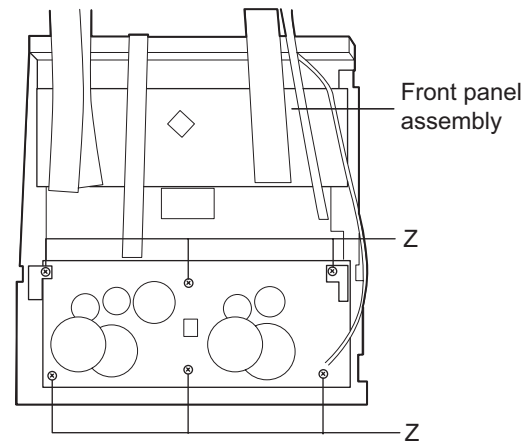

Fig.19
3.1.12 Removing the cassette deck mechanism (See Fig.19)
3.1.16 Removing the leaf switches of the cassette deck mechanism (See Fig. 19 and 26)
- (1) Remove the six screws **Z** that retain the cassette deck mechanism. (Fig.19)
- (2) Remove the cassette deck mechanism.
- (3) Turn the cassette deck mechanism upside down.
- (4) Remove the solder from around the leaf switches.
- (5) Pull out the leaf switches from the front side of the cassette deck mechanism.
3.1.17 Removing the cassette deck main motor, and replacing the main belts (See Fig.19, 24 and 25)
- (1) Remove six screws **Z** retaining the cassette deck mechanism. (Fig.19)
- (3) Remove two screws **t** retaining the main motor from the front side of the cassette deck.
(See Fig. 19 and 27)
- (1) Remove six screws **Z** that retain the cassette deck mechanism. (Fig.19)
- (2) Remove the cassette deck mechanism and place it so that the front side faces up.
- (3) Remove the solder from the bottom side of the head terminal and disconnect the wire.
- (4) Remove screw **U** that retains the head.
- (5) Remove screw **V** that retains the head.
- (6) Hold the head and slide it in the direction of the arrow to remove it.